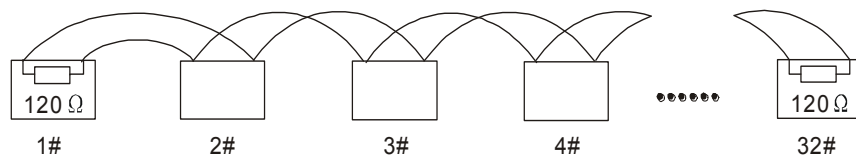
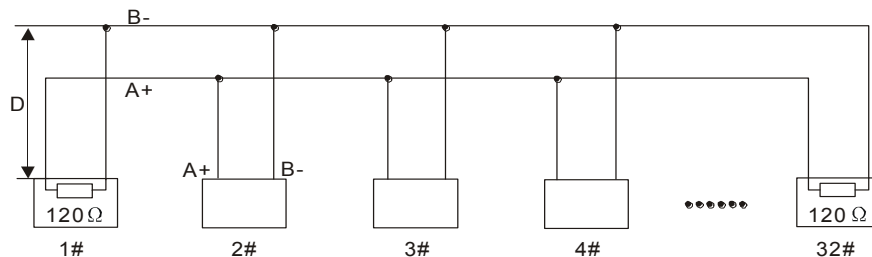

Figure41
Figure42
- ◆ The RS485 industry control bus requires daisy-chain connection mode between equipments, and 120Ω terminal impedances should be connected at each end. The mode is shown in figure 41. Simplified connection mode is shown in figure 42. The distance of D must be less than 23 feet (7 meters).